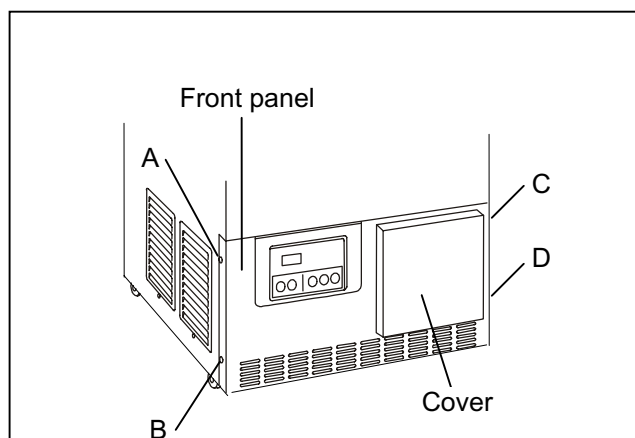

Fig. 1
1. Remove 4 screws (A, B, C, D) on the side of the front panel to take off the front panel. Then remove 4 screws on the cover for the recorder mounting space and take off the cover (Fig. 1). After removing the cover, replace 4 screws.
1. Remove 4 screws (A, B, C, D) on the side of the front panel to take off the front panel. Then remove 4 screws on the cover for the recorder mounting space and take off the cover (Fig. 1).